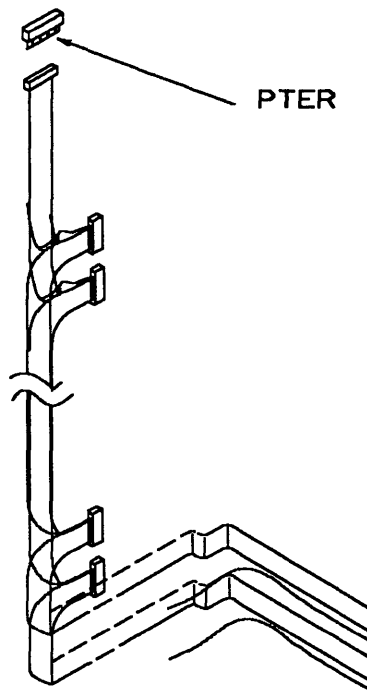

Figure 4-11. Power Terminator (Frame 01 Represented).
5. Disconnect the power bus cable from the terminator on the bus to be tested. See Figure 4-11.